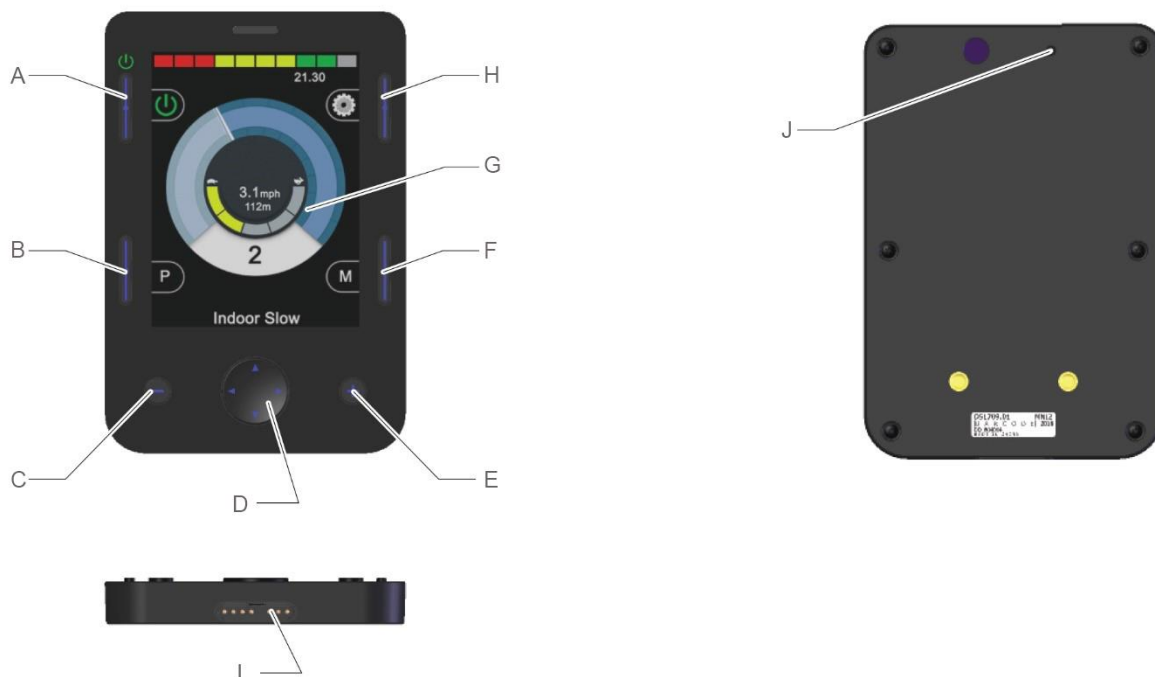

Figure 1 – An overview of the ‘Display Section’.
The on/off button switches on power to the complete control system electronics. See item (A) on figure 1.
The profile button can be used to change between the available drive profiles. See item (B) on figure 1.
The settings button launches the settings menu screen. Refer to the settings menu section 3.6 for further details. See item (H) on figure 1.
The mode button can be used to change between the available modes. See item (F) on figure 1.
The minus (-) button can be used to reduce the speed within a drive profile. See item (C) on figure 1.
The plus (+) button can be used to increase the speed within a drive profile. See item (E) on figure 1.
The array of four navigation buttons allows the settings and user menu screens to be navigated. See item (D) on figure 1.
At the base of the 'Display Section', there is a connector for the cable which goes between the 'Display Section' and the 'Input Section'. See item (I) on figure 1.